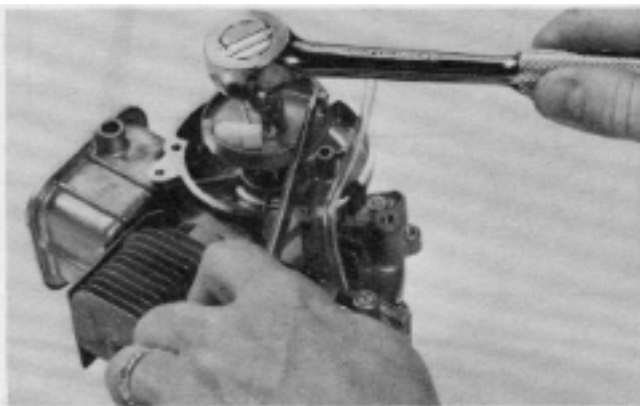

Figure 88
5. Remove the nut securing the starter pulley to the crankshaft. See Fig. 88.